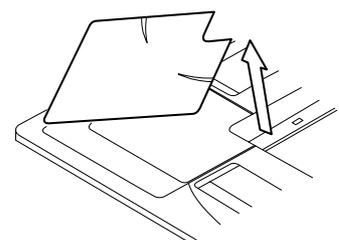

Fig. 4
- (3) Remove the service cover on the corner.
- Slide the service cover outward to remove. **(Refer to Fig. 4)**